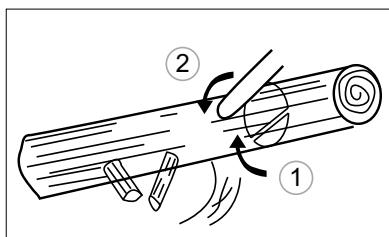

Fig. 21
2. When the trunk is at one end of its support, first cut down to about 1/3 of the diameter of the trunk to prevent splitting. Then finish the cut at the top so that it coincides with the first cut, avoiding jamming (fig. 21).